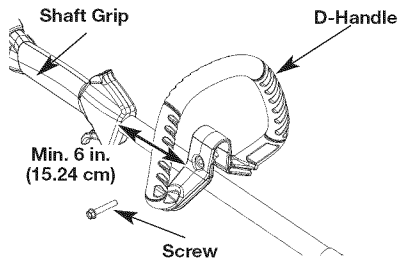

Fig. 1
1. Loosen the bolt on the D-handle (Fig. 1).